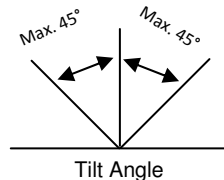

Figure 2: Allowable tilt angle during handling
- When transporting, moving and installing the heat pump, ensure that it is not tilted by more than 45° (in any direction), for any prolonged period of time (see figure 2).